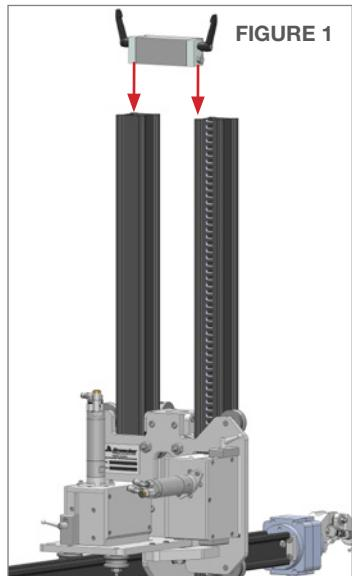

FIGURE 1
1. Slide the Tie Rail Stop onto the end of the Vertical Rail Assembly. (**Figure 1**) Orient and tighten the Release Levers away from the Carriage Assembly. (**Figure 2**)